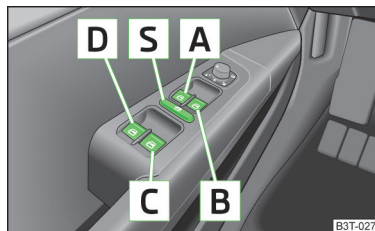

Fig. 43
- Deactivating the electrically operated power windows in the rear doors is recommended (safety push button) [S] when children are being transported in the rear seats » Fig. 43 on page 60.
- After switching the ignition off, it is still possible to open or close the windows for approx. 10 minutes. After the driver's or front passenger's door has been opened, the windows can only be operated by using button [A] » Fig. 43 on page 60.
Power window buttons » Fig. 43.
The buttons for power windows in the rear doors can be deactivated by pressing the safety switch  » Fig. 43. The buttons for the electrical power windows in the rear doors are activated again by pressing the safety pushbutton  again.
- Hold button **A** » Fig. 43 on page 60 in the opening position.
- Hold button **A** » Fig. 43 on page 60 in the closing position.